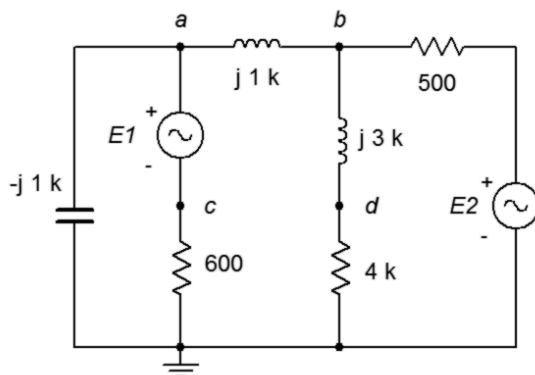

Figure 5.6
11. Use Superposition to find the two source currents for In the circuit of Figure 5.6. Source one is 100 mV peak and source two is 500 mV peak (in phase).
12. Use Superposition to find v_{cd} for the circuit of Figure 5.6. Source one is 100 mV peak and source two is 1 V peak (in phase).